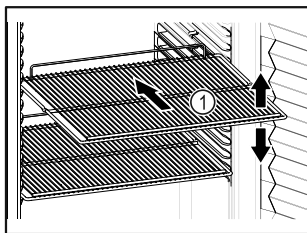

Fig. 65 Example illustration
- ☐ If there are adjustable shelves Fig. 65 (1), position them as required.